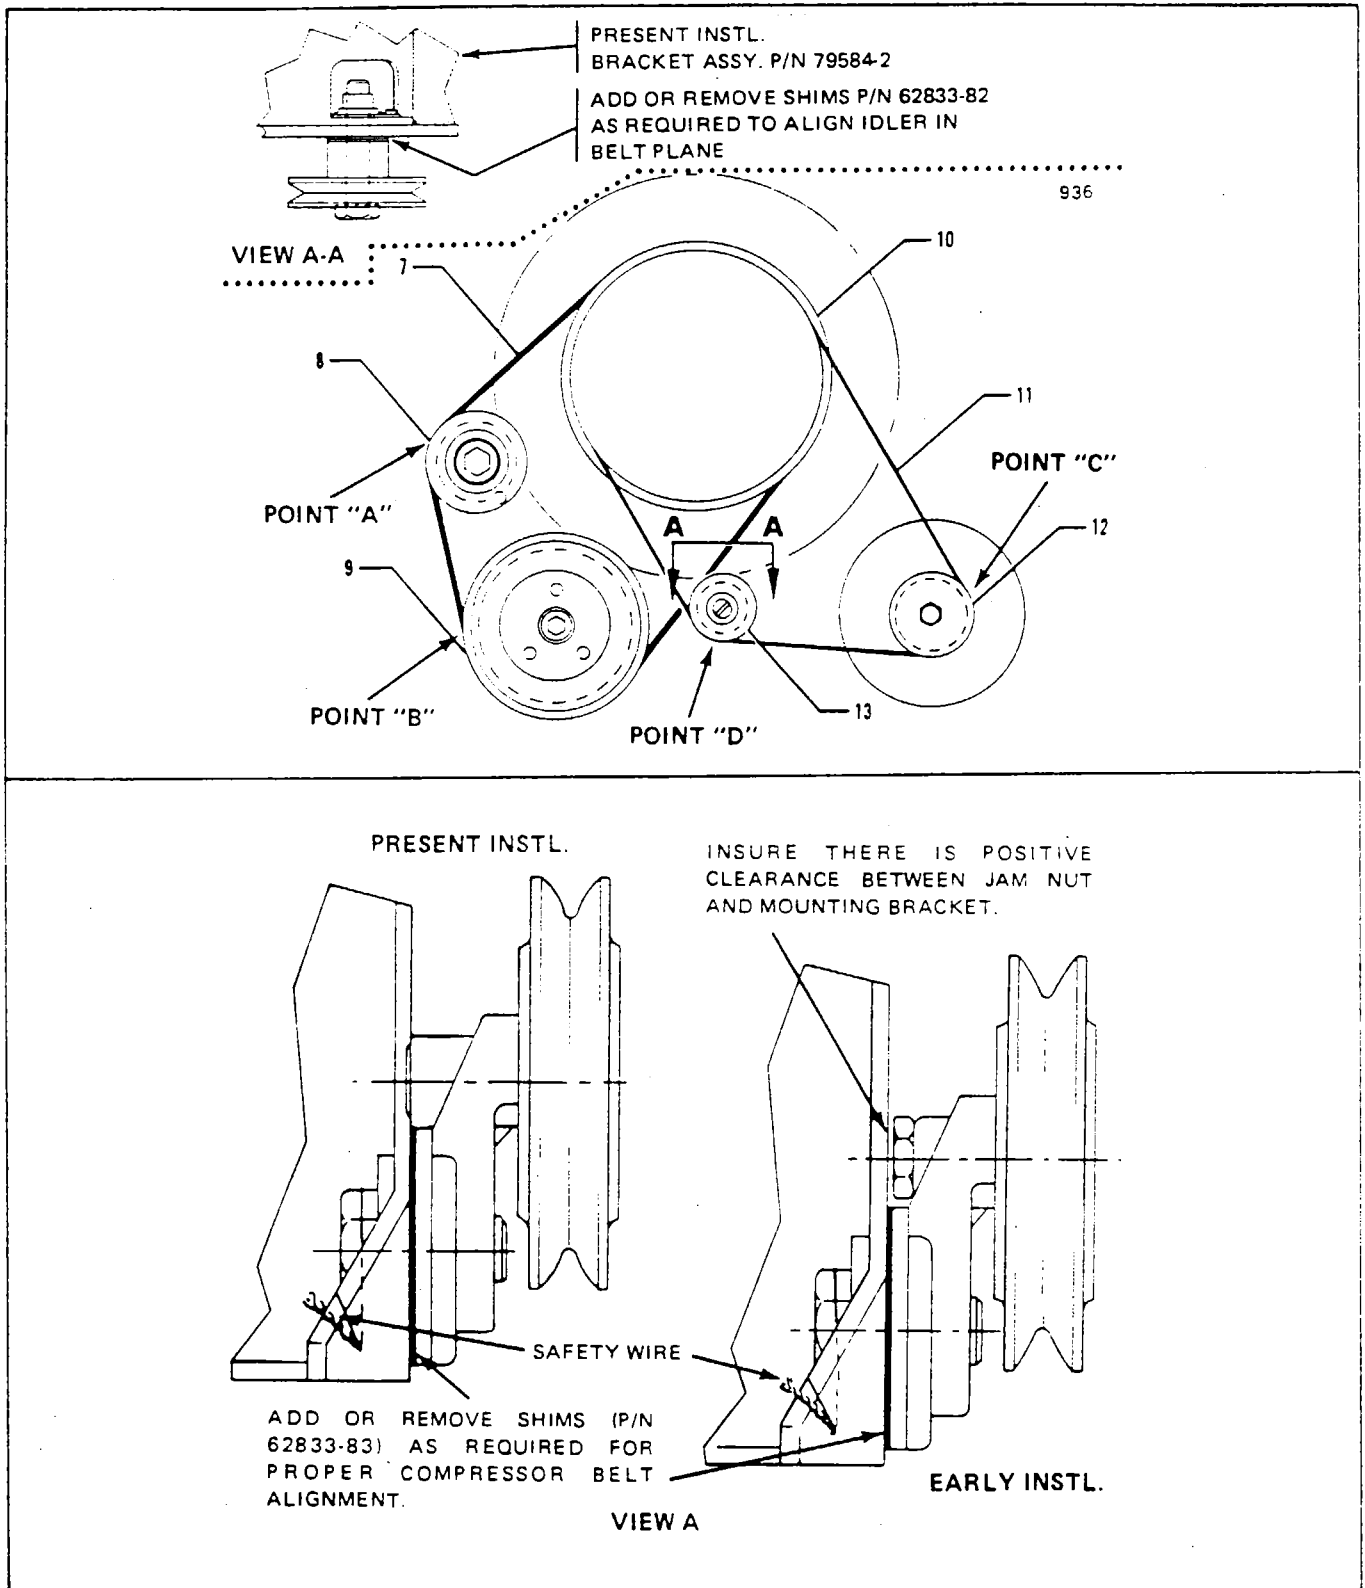

Figure 13-10. Compressor and Alternator Belt Installation (cont.)
2. Obtain a basic measurement from the top of the ring gear by measuring the width of the starter ring gear plus the dimension from the forward machined surface of the ring gear to the forward edge of the compressor or alternator (on early installations) drive belt. (Refer to Figure 13-10.)